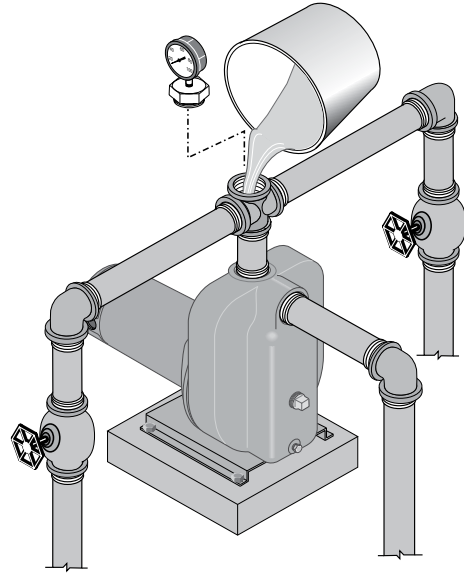

Figure 10 – Remove Priming Plug and Fill Pump Before Starting
2. Remove priming plug. Fill pump and suction pipe with water (Figure 10). **NEVER** run pump dry. Running pump without water in it will damage seals and can melt impeller and diffuser. Be sure discharge (valve, pistol grip hose nozzle, etc.) is open whenever pump is running.